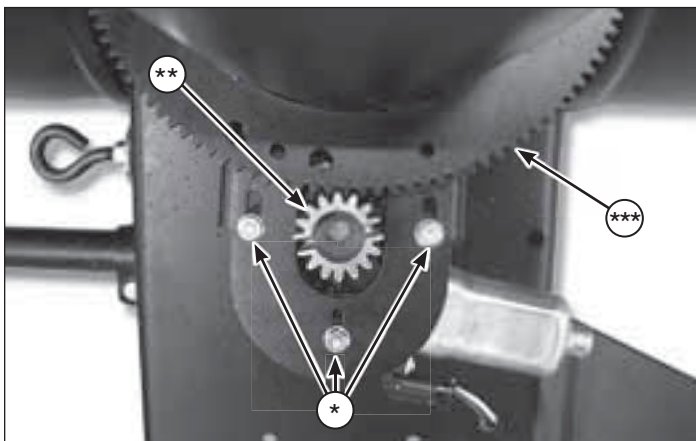

Figure 5
- Loosen the three nuts (*, Figure 5) on motor assembly. Replace chute rotator gear (**) onto shaft and mesh the teeth with chute ring gear (***). Slide motor assembly forward and tighten the hex bolts (*).